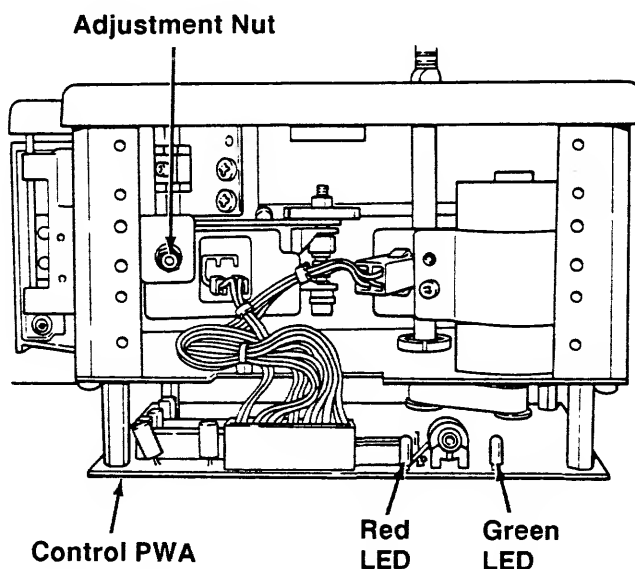
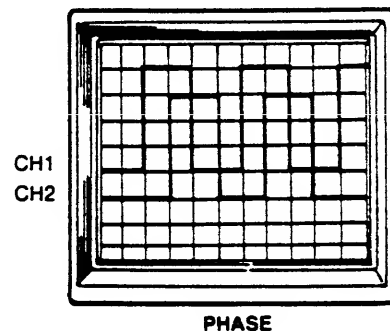

Figure 3-6A
Figure 3-6.2C
8. Turn the Manual Scan Control clockwise. The Green LED on the Control PWA (Figure 3-6A) should go out while turning the Manual Scan Control and stay on when the Manual Scan Control is not turned. Turn the Adjustment Nut (Figure 3-6A) until this condition is met.
9. Turn the Film Speed Control clockwise until the Glass Flat just opens. The Red LED on the Control PWA (Figure 3-6A) should steadily pulse. Readjust the Adjustment Nut until this condition is met.
13. Load film and turn the Film Speed Control clockwise until the Glass Flat just opens. The Channel 1 waveform should lead the Channel 2 waveform by $90^\circ \pm 15^\circ$ (Figure 3-6.2C).
1. Turn the Adjustment Nut (Figure 3-6A, pg 3-8) so the Channel 1 waveform leads the Channel 2 waveform by $90^\circ \pm 15^\circ$ (Figure 3-6.2C).